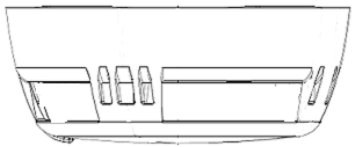

Figure 3
- Continue to rotate a few degrees until the ONEDETECTOR1_AP has fully engaged in the ONEBASE_AP. (fig3) Figure 3